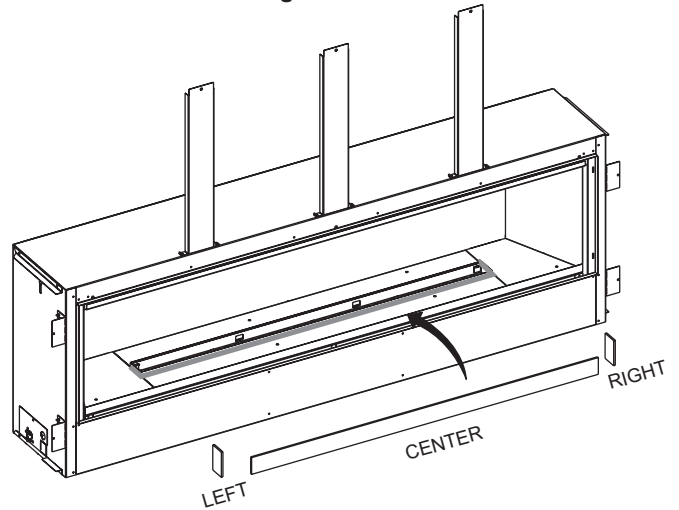

Figure 55
5. Retrieve the 3 glass panels and install on front and both sides of burner. **See Figure 55**.